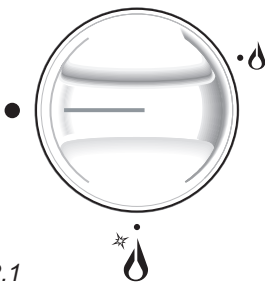
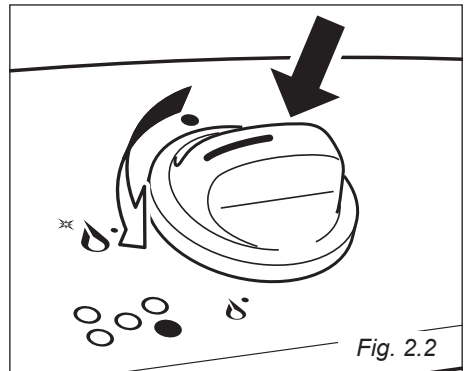

Fig. 2.1
Fig. 2.2
Gas flow to the burners is adjusted by turning the knobs (illustrated in fig. 2.1 - 2.3) which control the valves.
1. Press in the corresponding knob and turn counter-clockwise (fig. 2.2) to the full flame position marked by the “” symbol (fig. 2.1); hold the knob in until the flame has been lit.
1. Press in the corresponding knob and turn counter-clockwise (fig. 2.2) to the full flame position marked by the “” symbol (fig. 2.3); hold the knob in until the flame has been lit.